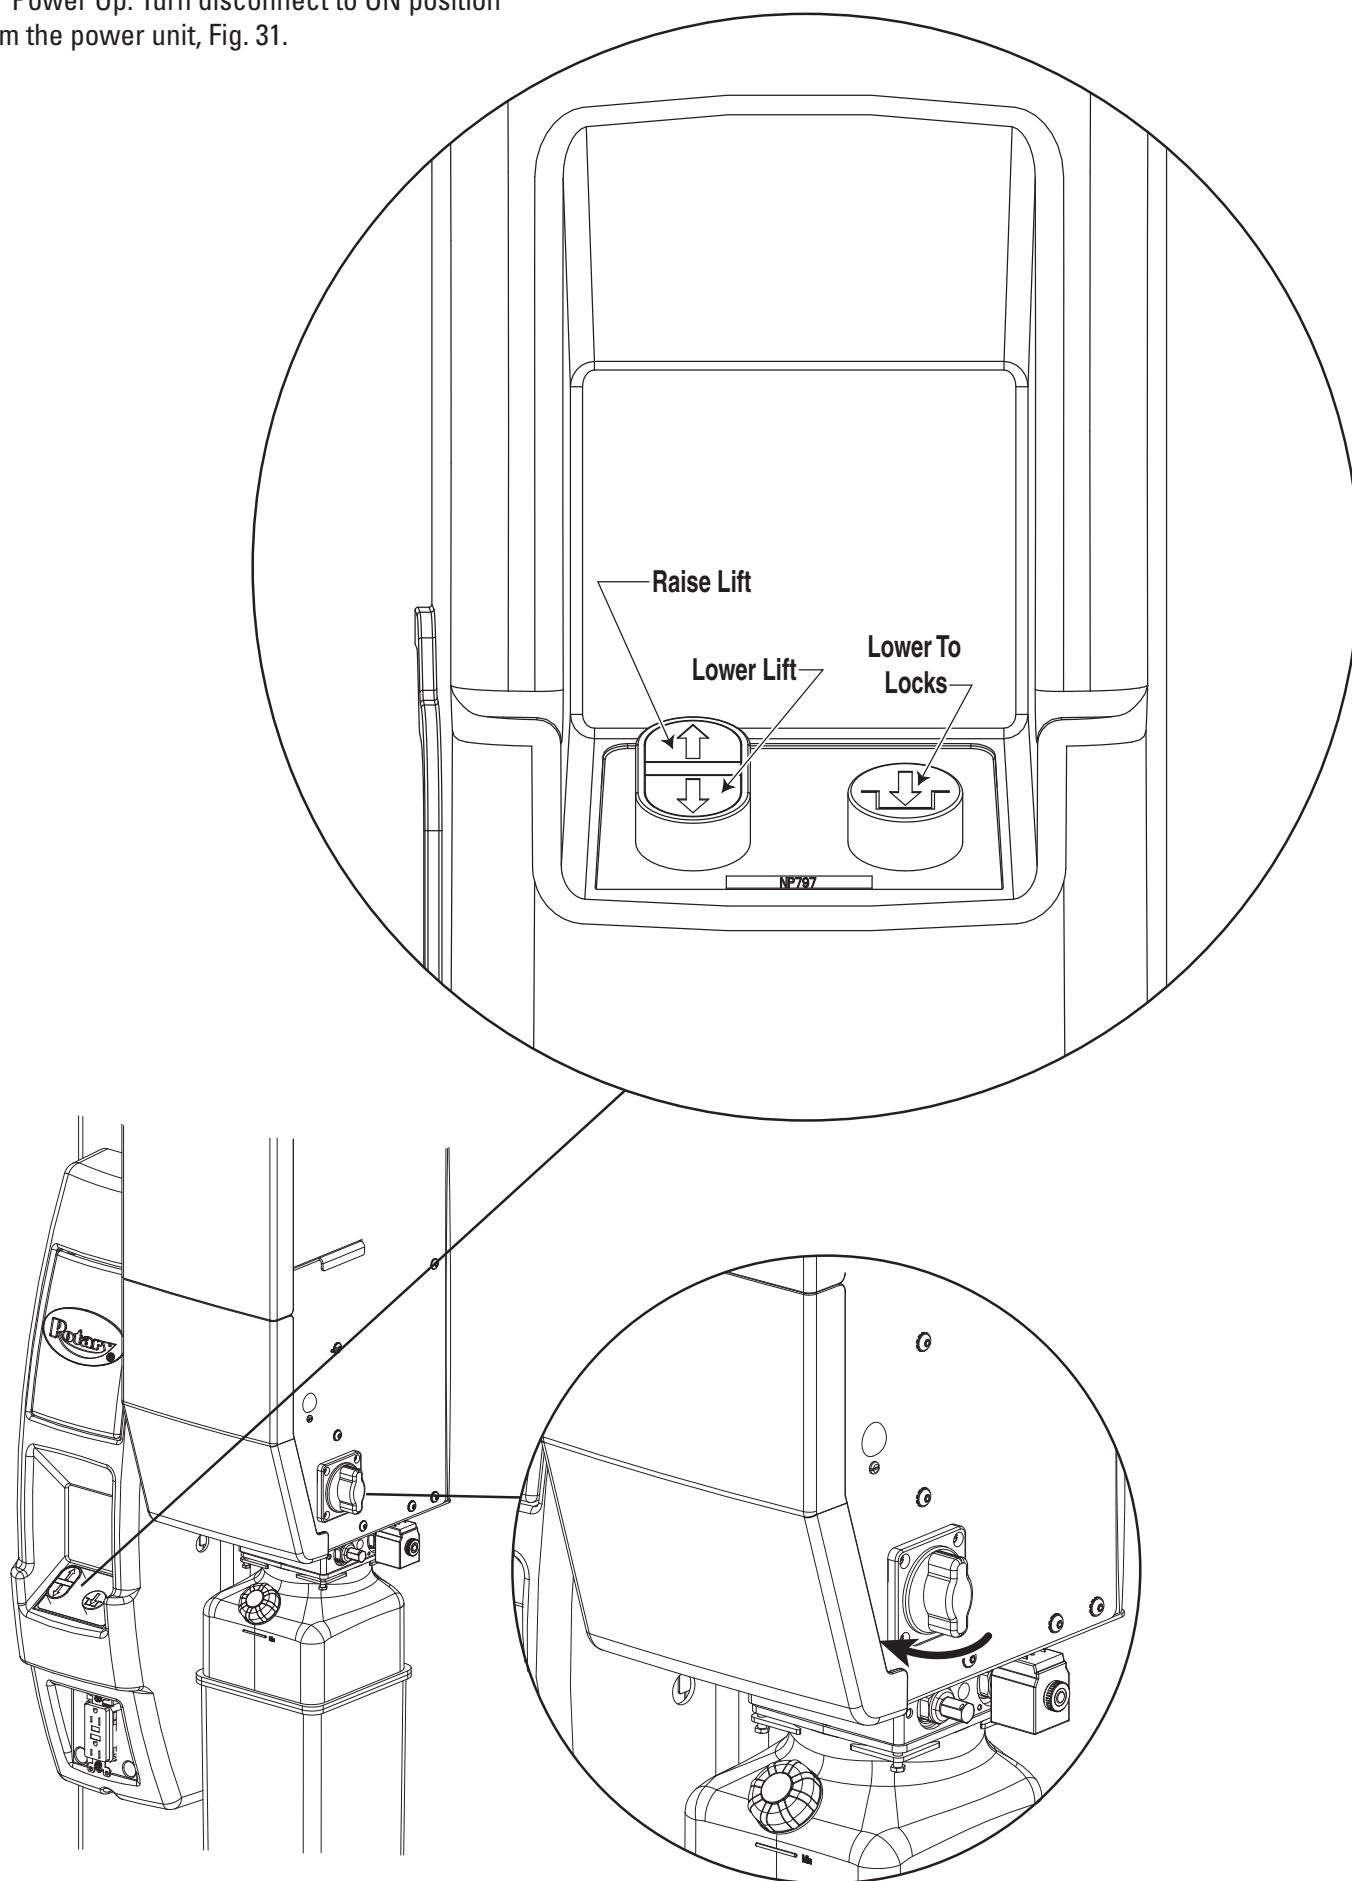

Fig. 31
37. Power Up: Turn disconnect to ON position from the power unit, Fig. 31.